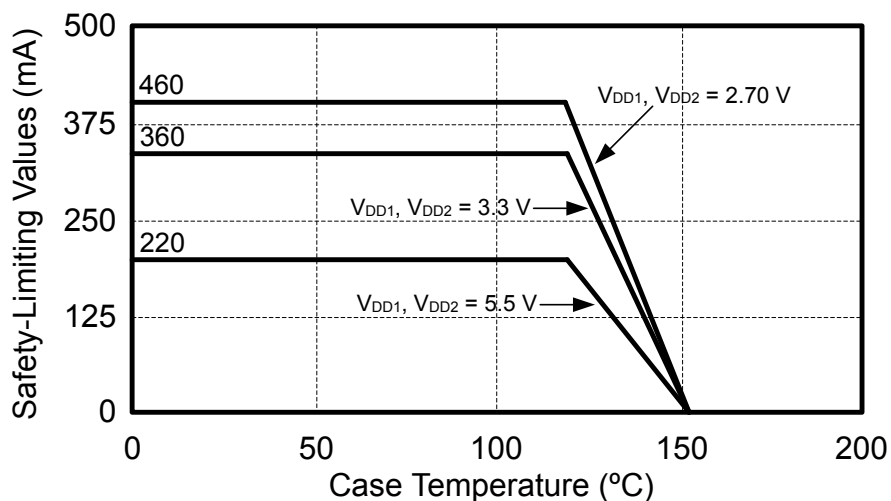
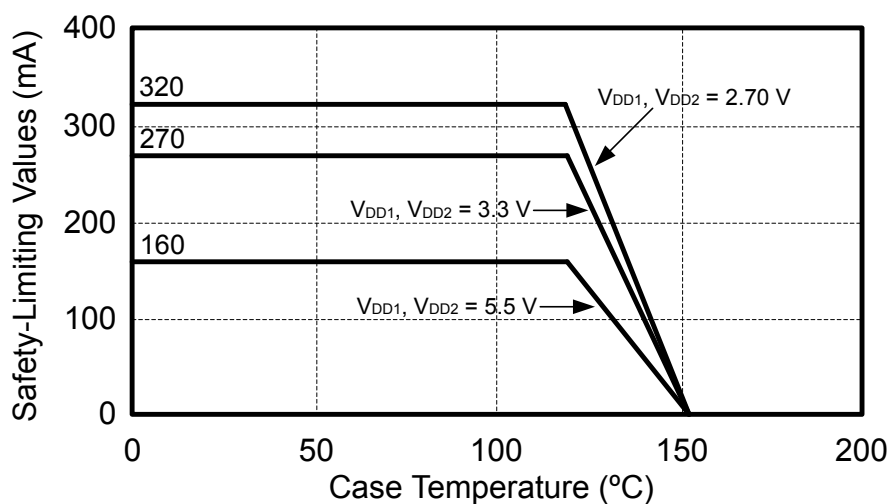

Figure 5.2. (WB SOIC-16) Thermal Derating Curve, Dependence of Safety Limiting Values with Case Temperature per DIN EN 60747-5-5
Figure 5.3. (NB SOIC-8) Thermal Derating Curve, Dependence of Safety Limiting Values with Case Temperature per DIN EN 60747-5-5
1. Maximum value allowed in the event of a failure; also see the thermal derating curve in Figure 5.2 (WB SOIC-16) Thermal Derating Curve, Dependence of Safety Limiting Values with Case Temperature per DIN EN 60747-5-5 on page 25 and Figure 5.3 (NB SOIC-8) Thermal Derating Curve, Dependence of Safety Limiting Values with Case Temperature per DIN EN 60747-5-5 on page 25 .